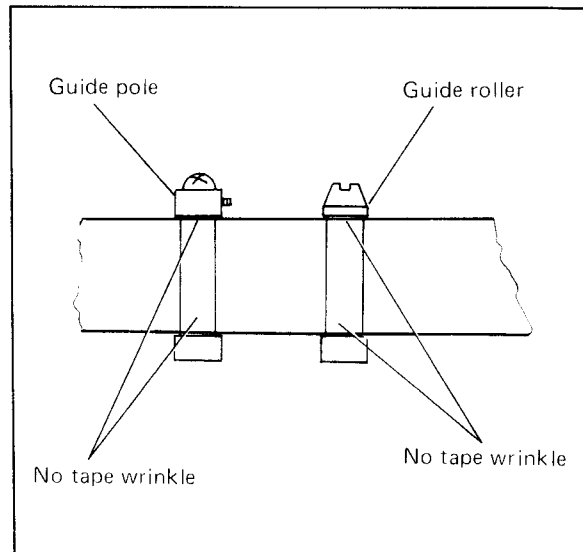

Fig. 5-25
2. Verify the tape traveling at the supply guide pole, full erase head, guide rollers and take-up guide pole, so that there is no tape wrinkles as shown in Fig. 5-25.